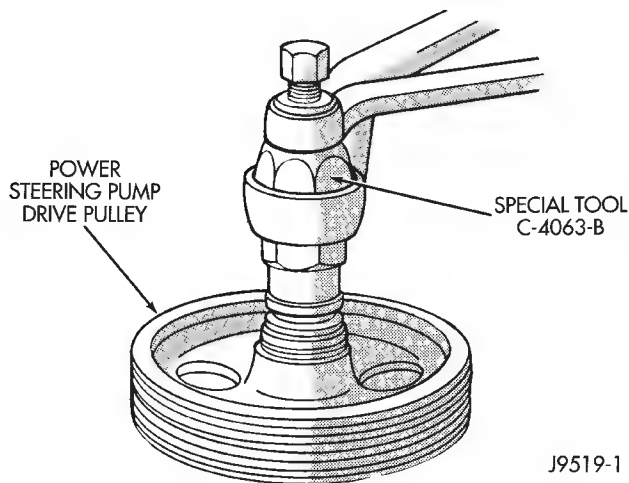

Fig. 6 Install Drive Pulley—Typical
(1) Install 3 front bracket-to-pump bolts. Tighten to 28 N•m (21 ft. lbs.) torque.
(2) Install pulley on pump. Refer to Drive Pulley Replacement in this section (Fig. 6).
(1) Install the pulley with Installer C-4063-B (Fig. 6). Do not use the tool adapters.